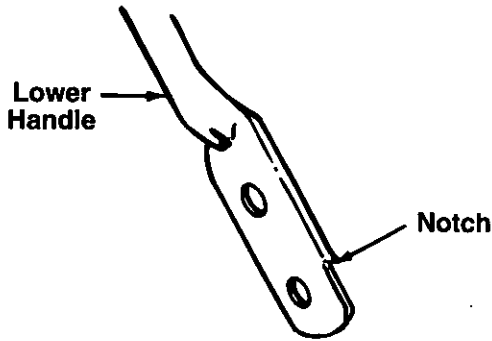

FIGURE 14.
- Turn the lower handle around so the notches on the bottom of the lower handle are facing forward as shown in figure 14. Reassemble, placing the bottom holes in the handle over the weld pins in the handle mounting bracket.